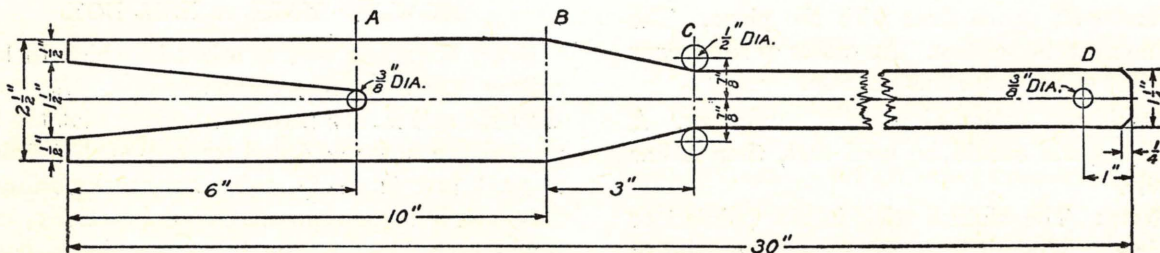

Fig. 50—The working drawing of a clothes stick
1. Square the stock to the desired size. Consult the directions at the beginning of this chapter for squaring. Use the dimensions as shown in Fig. 50.